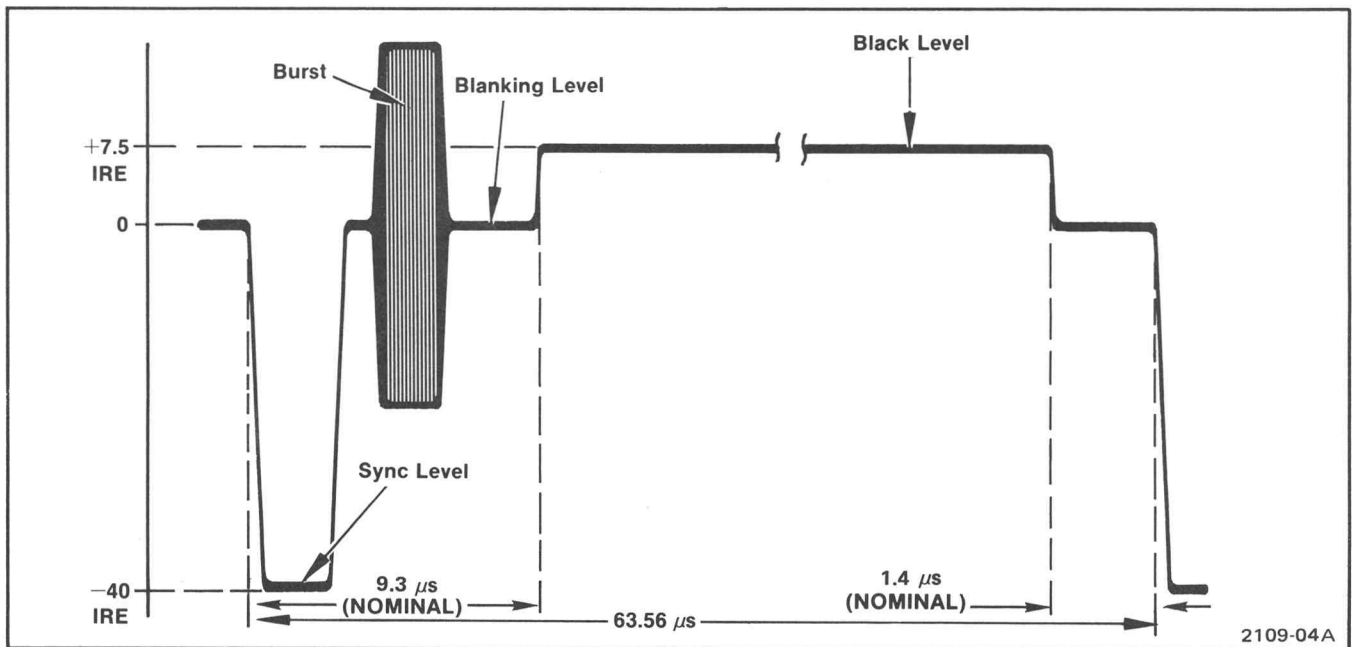

Fig. 4-3. The Black Burst Signal.
a. Check—Refer to Fig. 4-3 for timing details.